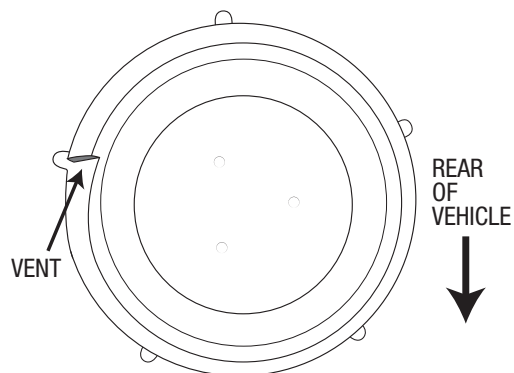

Figure 20
2. Install the pre-filter. This must be installed with the vent to the rear of the vehicle (Fig. 20).